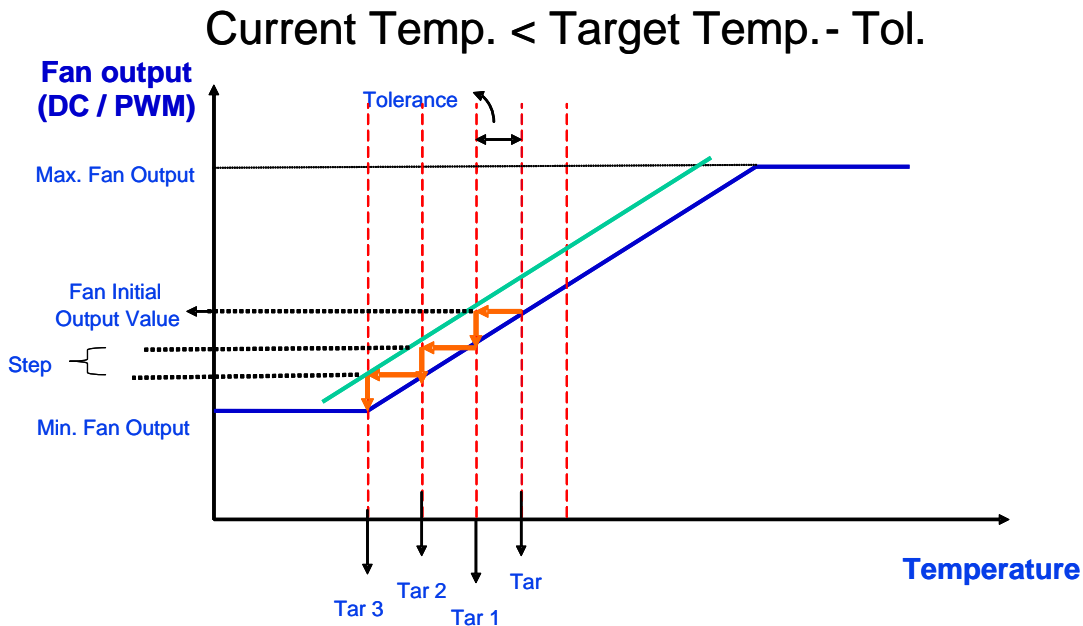

Figure 11
- (4) If the current temperature falls below (Target Temperature – Temperature Tolerance), the fan speed falls by one step. In addition, the target temperature shifts to (Target Temperature – Temperature Tolerance), creating a new target temperature named Target Temperature 1. This is illustrated in Figure 11 below. If the current temperature is still lower than (Target Temperature 1 – Temperature Tolerance), the fan speed is reduced by one step again, and the target temperature shifts to (Target Temperature 1 – Temperature Tolerance), or Target Temperature 2. This process repeats whenever the current temperature is lower than (Target Temperature X – Temperature Tolerance) or until the fan speed reaches its minimum speed.
- (5) If the current temperature is always lower than (Target Temperature X – Temperature Tolerance), the fan speed decreases to zero or to a specified stop value (minimum fan speed). The stop value (minimum fan speed) is enabled by register Bank0, Index 12h, bit 4 and bit 6, and is specified in Bank0, Index 09h and Index 64h. The fan keeps at the stop value (minimum fan speed) for the time period defined in Bank0 Index 0Dh and Index 66h.